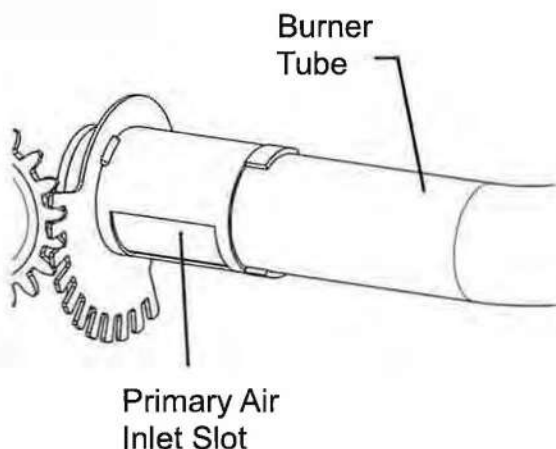

Fig. 31 - Primary Air Inlet Slot on Burner Tube
2. Inspect burner, pilot and primary air inlet holes on orifice holder for dust and dirt (See Fig. 31).